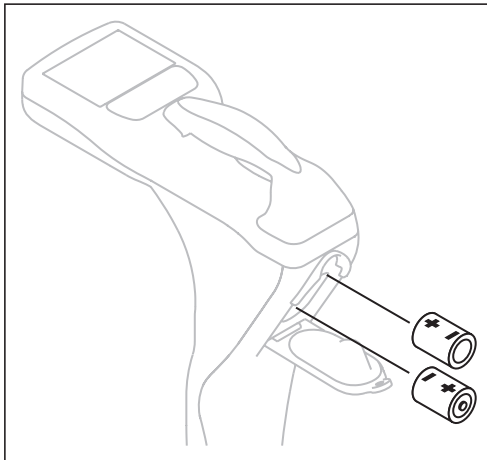

Fig. 11: Changing the batteries in the receiver – battery polarity
3. Insert new batteries. Ensure correct polarity (Fig. 11).